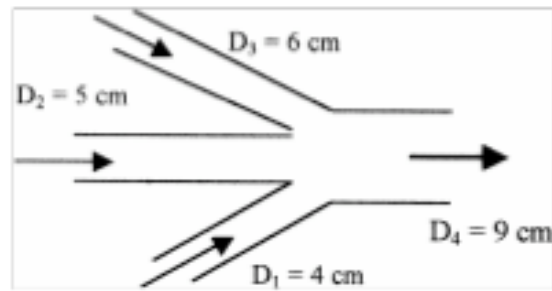

Fig. P3.8
3.8 Three pipes steadily deliver water at 20°C to a large exit pipe in Fig. P3.8. The velocity $V_2 = 5$ m/s, and the exit flow rate $Q_4 = 120$ m³/h. Find (a) V_1 ; (b) V_3 ; and (c) V_4 if it is known that increasing Q_3 by 20% would increase Q_4 by 10%.